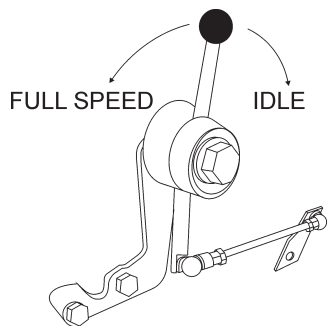

Figure 7. Speed Control Lever
1. Set the **Speed Control Lever** (Figure 7) to a position half way between start and stop.
10. Move **speed control lever** to full speed position for maximum engine speed. (See Fig. 7)